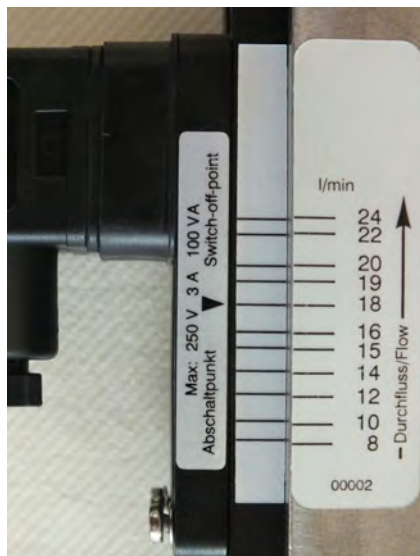

Fig. 35: Reading-off the switch point (example)
1. ➔ Make sure that the setting arrow, the scale mark on the additional label on the guide rail and the scale mark of the switch point adjustment scale are in alignment. (Fig. 35)